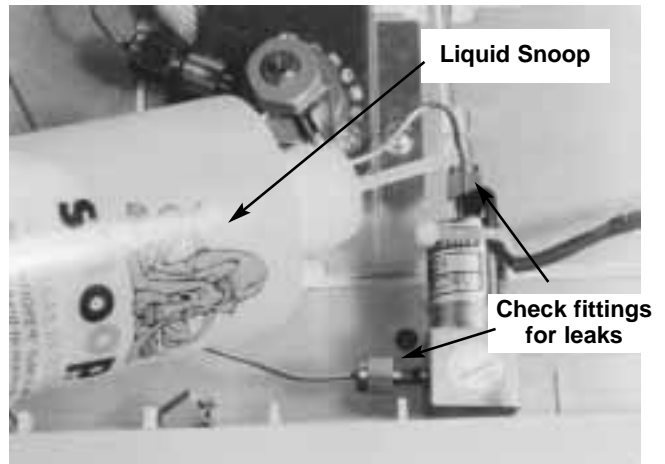

Fig 3.33 Using SNOOP to leak check fittings on the GC carrier gas solenoid valve.
8. Turn on the carrier gas flow again and check for leaks in these connections using Snoop. **See Figure 3.33.** If leaks occur re-tighten the fittings and leak check again.
11. Plug the appropriate end of the remote cable (782012) onto the plug on the GC control board. See **Figure 3.33**. Feed the cable out to the rear of the GC so that it can be later plugged into the rear of the S.P.T.D. controller.